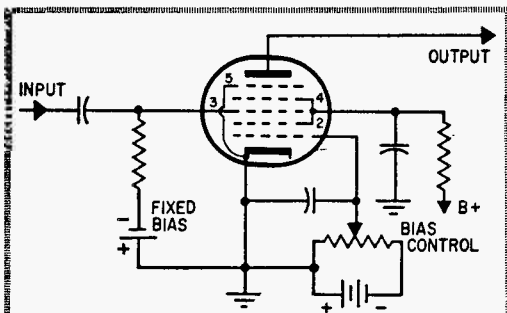

Fig. 5. Bias control with multi-element tube.
**Indirect Gain Control.** The gain of an amplifier stage can also be varied by controlling the electron stream as shown in Fig. 5. Here, a pentagrid tube is used. The audio signal is fed into its injection grid (#3) and gain is controlled by varying the bias on its control grid (#1). Making the voltage applied to this grid more negative reduces the flow of electrons from the cathode to the plate and thus reduces the gain of the tube.